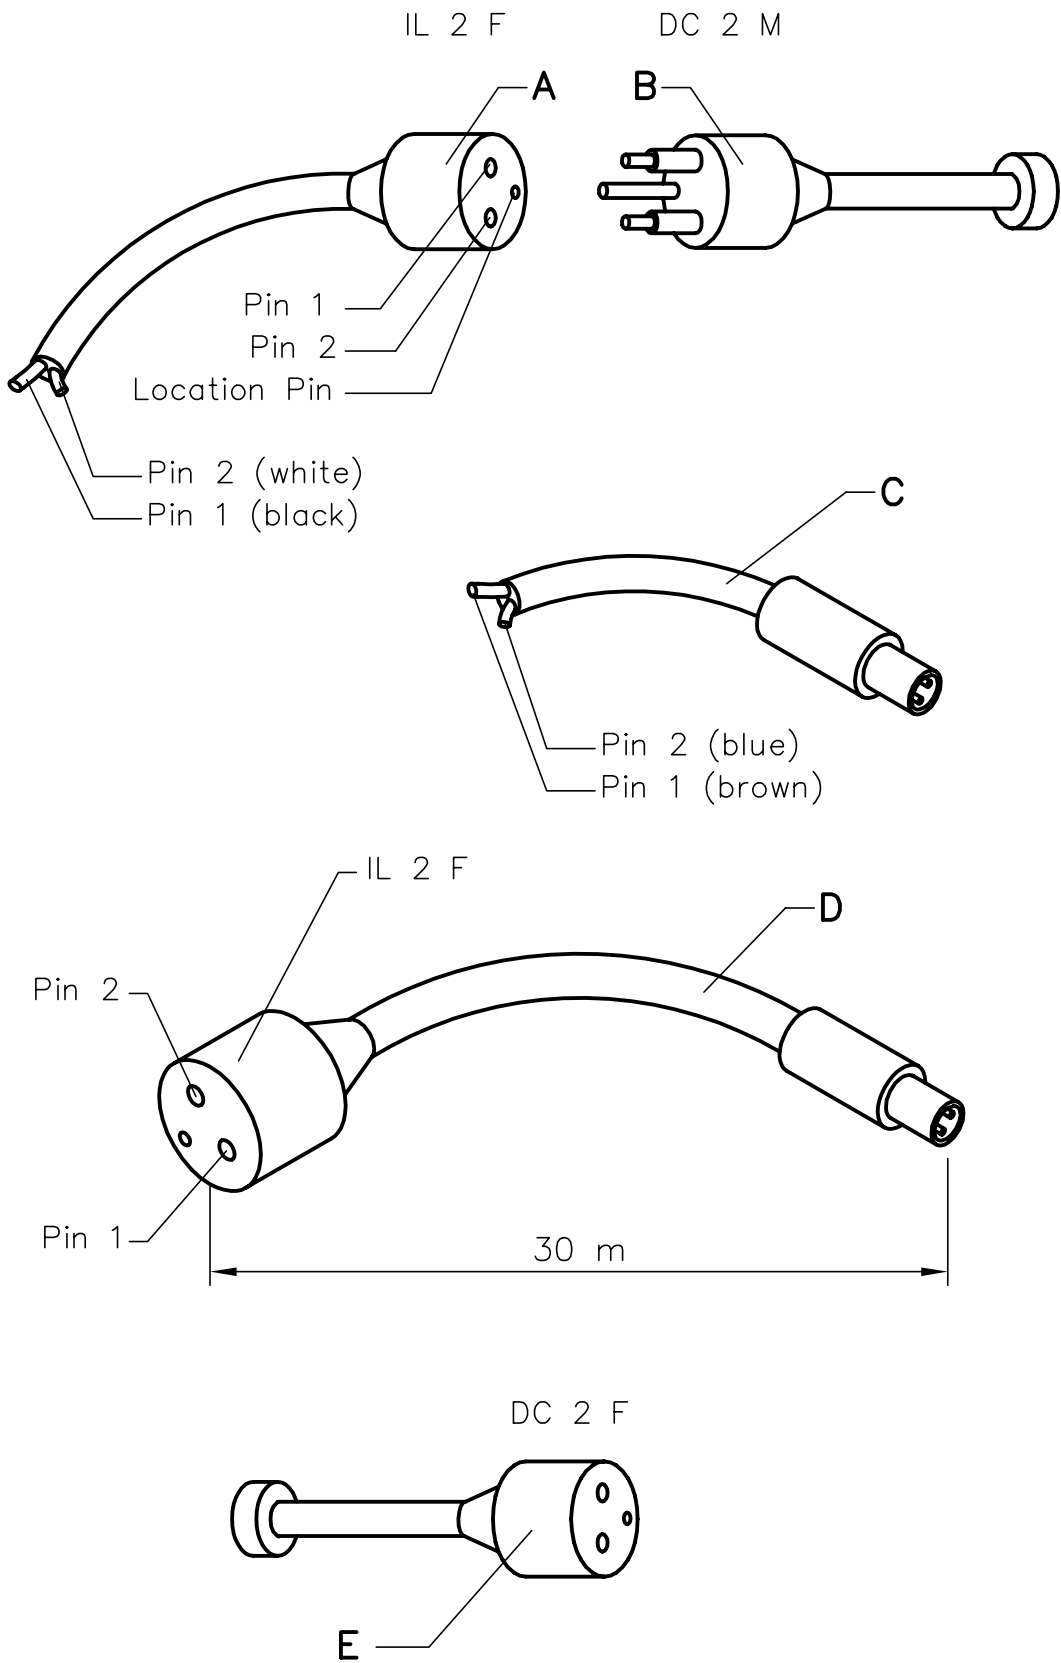
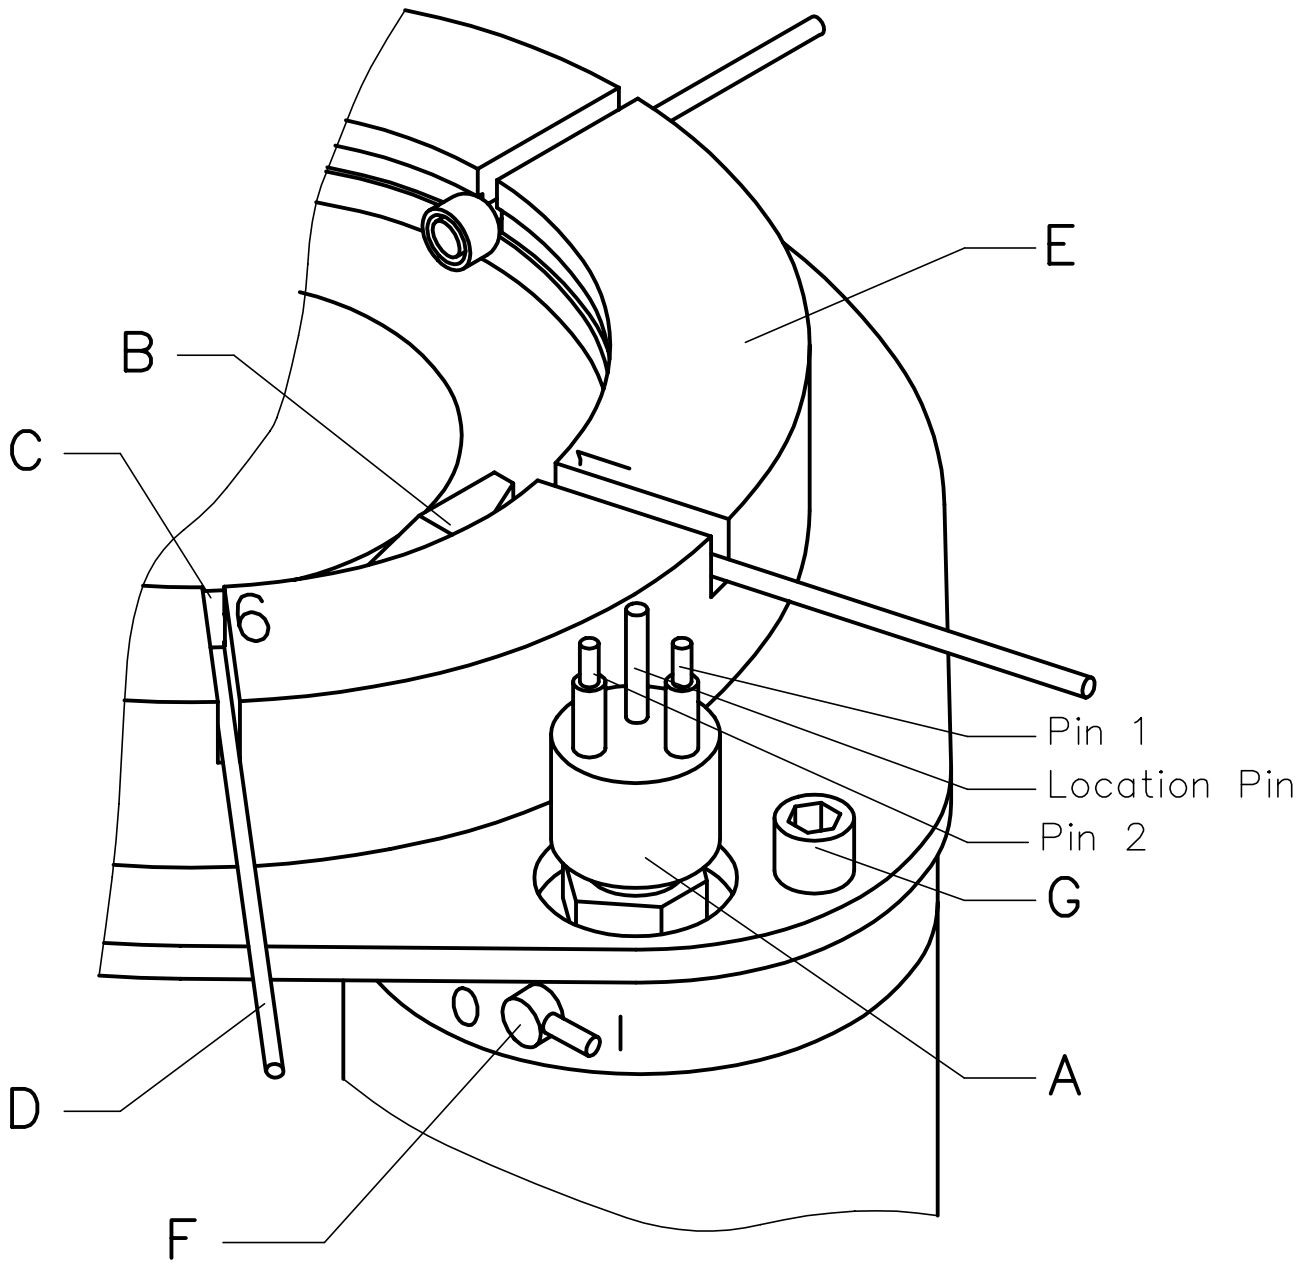
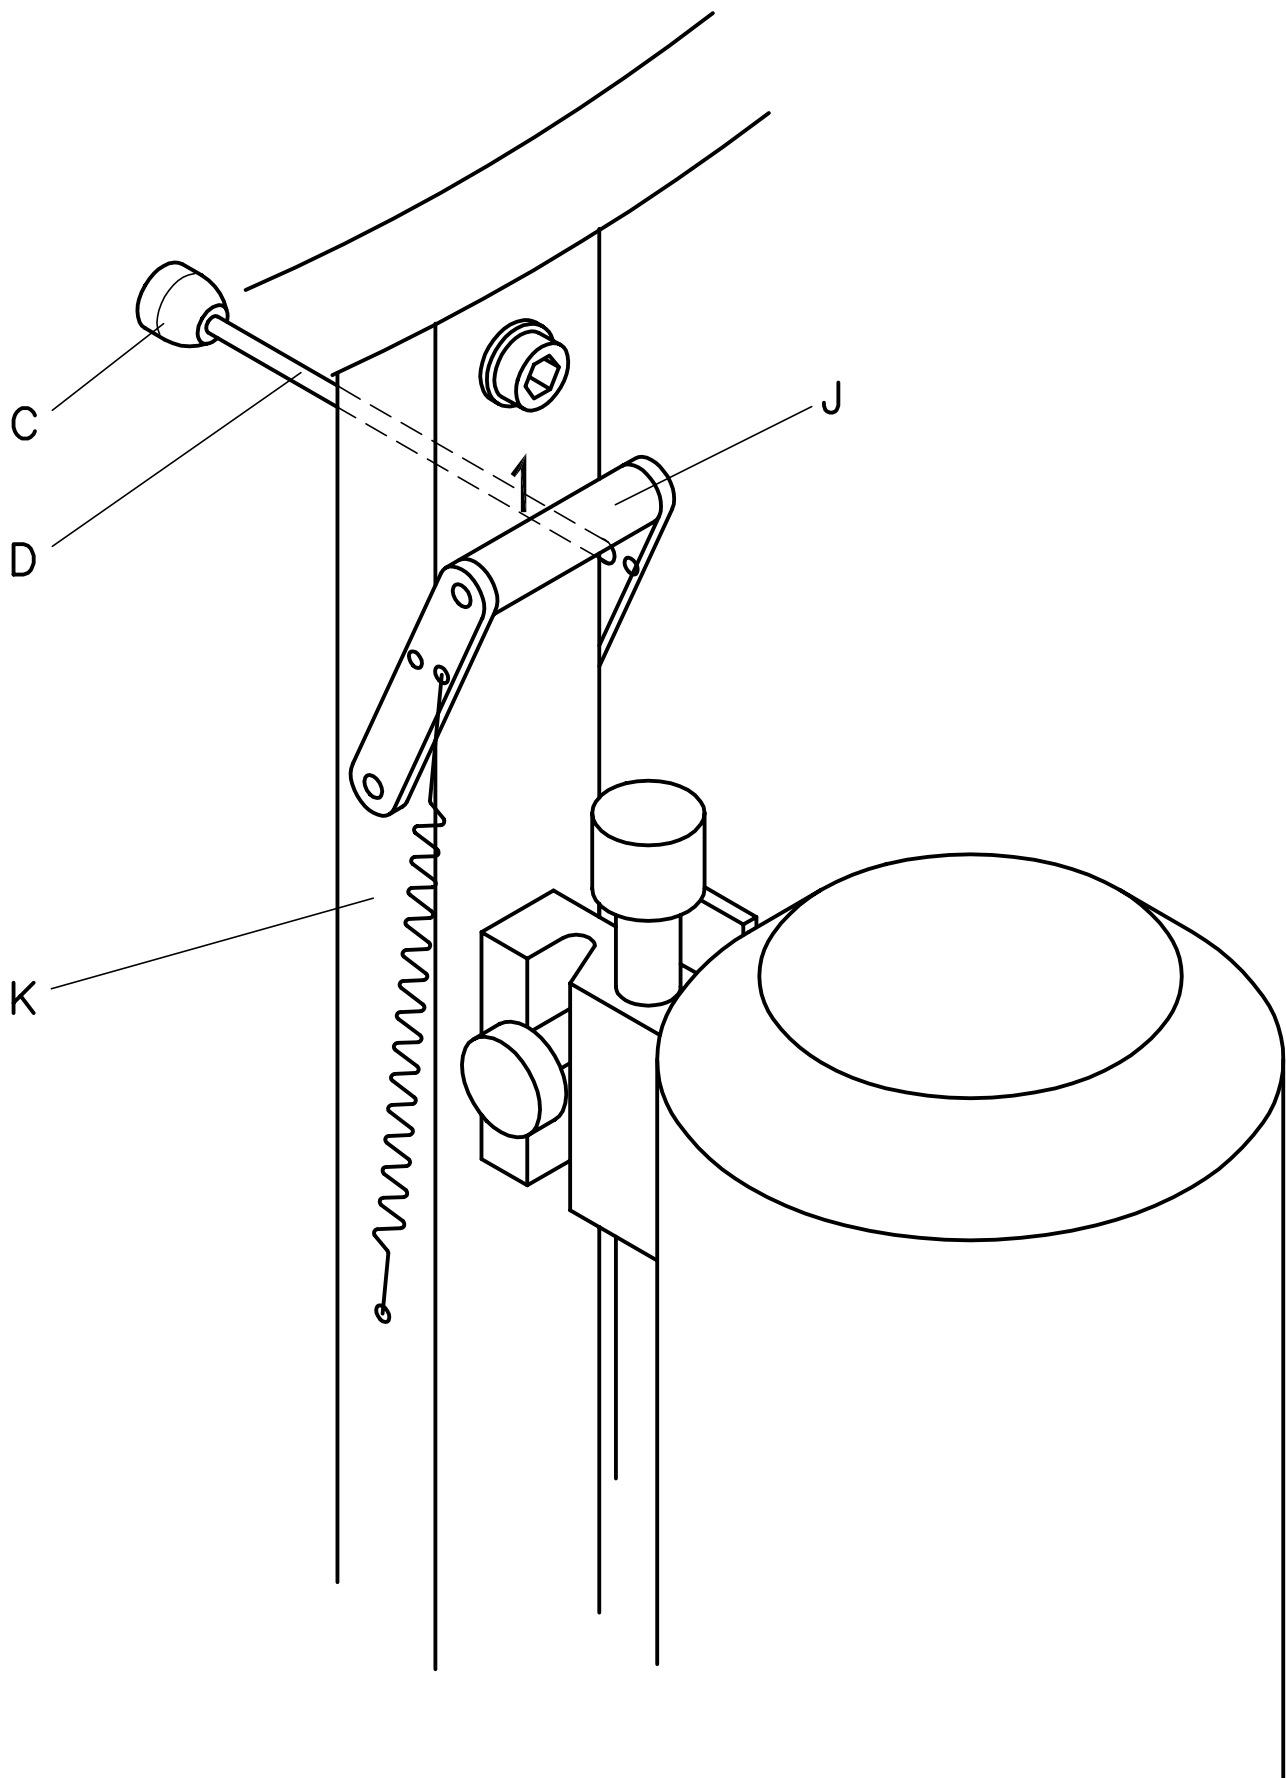

Fig. 1
Fig. 2
Fig. 3
12. The procedure (as described in point 11.) has to be repeated another 5 times. Finally the second line of the display indicates with **UNDERWATER UNIT: END OF OPERATION** that a complete operation has been simulated. The release block (Fig. 2 B) is now again between slit no. **1** and no. **6** (Fig. 2).
13. Switch off Underwater Unit (Fig. 2 F) and Deck Command Unit (Fig. 4 B).
14. Remove the Test Run Cable (Fig. 1 D).
When a **SECOND TEST RUN** of the **MULTI WATER SAMPLER MWS** is not intended, plug the dummy DC 2 F (Fig. 1 E) onto the connector BH 2 M (Fig. 2 A) and plug the dummy DC 2 M (Fig. 1 B) into the connector IL 2 F (Fig. 1 A) of the single or multi conductor cable. Beforehand the contacts should be slightly greased with the special Pin-lubricant.
2. The lever key of the Underwater Unit has to be switched to position **O** (Fig. 2 F).
3. Connect the connection cable from the slip ring box of the winch (Fig. 1 C) to the Deck Command Unit (Fig. 4 C).
4. Slightly grease the pins of the connector BH 2 M (Fig. 2 A) of the Underwater Unit with the PIN-lubricant.
5. Connect the single or multi conductor cable (Fig. 1 A) to the Underwater Unit (Fig. 2 A).
6. Lift the striking bar **J** of the rack no. **1** and put rope **D** with the plastic ball **C** into the corresponding slit no. **1** (Fig. 2, Fig. 3).
9. The lever key of the Underwater Unit has to be switched to position **I** (Fig. 2 F), the main screen appears at the display of the Deck Command Unit.
11. The procedure (as described in point 10.) has to be repeated another 5 times. Finally the second line of the display indicates with **UNDERWATER UNIT: END OF OPERATION** that a complete operation has been simulated. The release block (Fig. 2 B) is now again between slit no. **1** and no. **6** (Fig. 2).
12. Switch off Underwater Unit (Fig. 2 F) and Deck Command Unit (Fig. 4 B).
When an operation of the MULTI WATER SAMPLER MWS is not intended, the single or multi conductor cable has to be removed. To avoid corrosion of the contacts, plug the dummy DC 2 F (Fig. 1 E) onto the connector BH 2 M (Fig. 2 A) and plug the dummy DC 2 M (Fig. 1 B) into the connector IL 2 F (Fig. 1 A) of the single or multi conductor cable. Beforehand the contacts should be slightly greased with the special Pin-lubricant.
3. The lever key of the Underwater Unit has to be switched to position **O** (Fig. 2 F).
4. Lift the striking bar **J** of the rack no. **1** and put rope **D** with the plastic ball **C** into the corresponding slit no. **1** (Fig. 2, Fig. 3).
8. The lever key of the Underwater Unit has to be switched to position **I** (Fig. 2 F), the main screen appears at the display of the Deck Command Unit.
14. Switch off Underwater Unit (Fig. 2 F) and Deck Command Unit (Fig. 4 B) when the Underwater Unit is back on board.
When a further operation of the MULTI WATER SAMPLER MWS is not intended, the single or multi conductor cable has to be removed. To avoid corrosion of the contacts, plug the dummy DC 2 F (Fig. 1 E) onto the connector BH 2 M (Fig. 2 A) and plug the dummy DC 2 M (Fig. 1 B) into the connector IL 2 F (Fig. 1 A) of the single or multi conductor cable. Beforehand the contacts should be slightly greased with the special Pin-lubricant.
2. Unscrew 3 hexagon socket screws M 6 (Fig. 2 G). and remove the motor housing.
- b) the the red releaser is not positioned between slit no. **1** and no. **6** of the basic ring (Fig. 2 B)
1. Connect the Test Run Cable (Fig. 1 D) to the Deck Command Unit (Fig. 4 C).
2. Connect the Test Run Cable (Fig. 1 D) to the removed motor housing (Fig. 2 A).
4. The lever key of the motor housing has to be switched to **I** (Fig. 2 F), the main screen appears at the display of the Deck Command Unit (see DECK COMMAND UNIT, page 8).
11. The red releaser block is to be turned by hand until it is positioned between slit no. **1** and no. **6** of the basic ring (Fig. 2 B).
1. Check the connection between the plug SUBCONN IL 2 F (Fig. 1 A) and the single or multi conductor cable (and check the cable adapter if used).